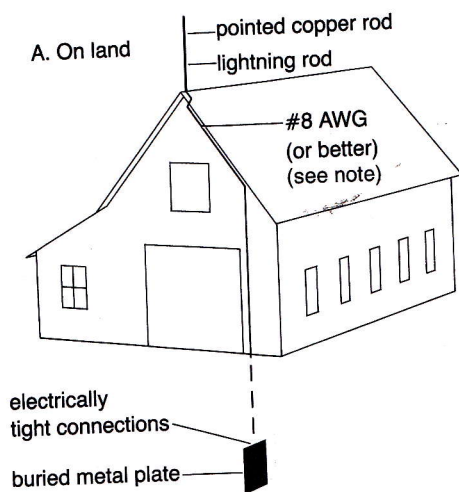

Figure 4-21A. Conventional lightning protection on shore. (Jim Sollers)
to bleed off electrons from the surface of the earth to the surrounding air in hopes of dissipating the electrons and so preventing a lightning strike, and (2) if this is not successful, to limit the damage done by a strike by providing a low-resistance path between the two oppositely-charged bodies, thus preventing the lightning from following more hazardous paths. To carry out these tasks, a pointed conductor is raised as high as practicable and connected electrically to the earth or the ocean (Figure 4-21A). Negatively charged electrons from the surface of the ocean are attracted to the positive cloud above, accumulating on the point of the lightning rod. Here the physical constraints caused by the geometry of the point greatly increase the electron density. Since the electrons are all of the same negative charge, and like charges repel one another, there is a pressure to push electrons off into the surrounding atmosphere where they neutralize the positive charge above.